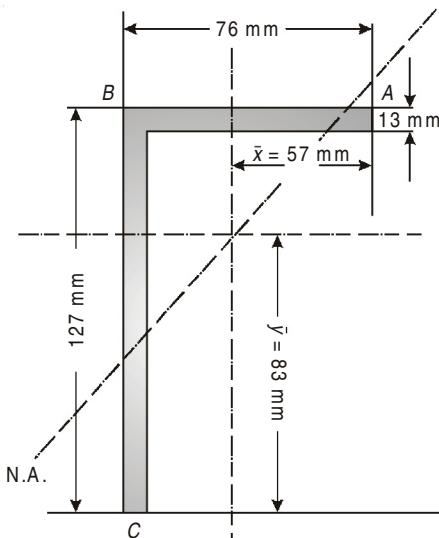

Fig. 12.28
1. A cantilever of length 1.2 m is of the cross-section as shown in Fig. 12.28, It carries a vertical load of 10 kN at its outer end, the line of action being parallel with the longer leg and arranged to pass through the shear centre of the section (i.e. there is no twisting of the section). Working from first principles, find the stress setup in the section at points A, B and C given that the centroid is located as shown. Determine the angle of inclination of the N.A.